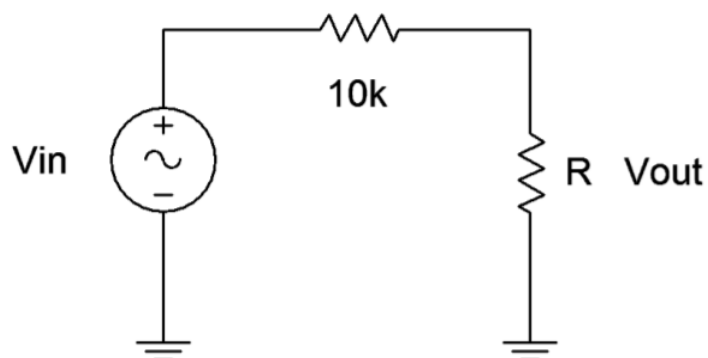

Figure 1.5.1
1. Calculate the voltage gains (losses) for the voltage divider of Figure 1.5.1 for the resistor values specified, and record them in Table 1.7.1. Also, convert each of the ordinary gains into decibel form.
2. Assemble the circuit of Figure 1.5.1 using the 22k resistor.